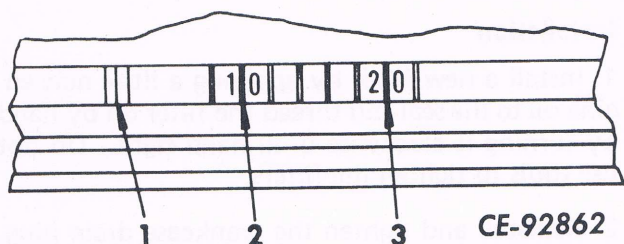

Fig. 23. Timing Marks on Vibration Damper
3. Remove the valve cover and gasket. Turn the crankshaft until the number one piston is on the compression stroke and the timing pointer on the front cover is in line with the TDC mark (1, Fig. 23) on the vibration damper.